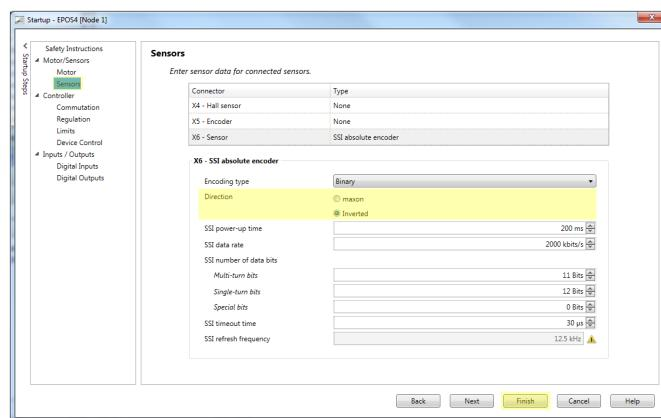

Figure 8-128 Adjustment of SSI commutation offset value | Toggle sense of rotation
- d) If the indication decreases, open the «Startup» wizard \ «Motor/Sensors» and select «Sensors». Toggle the sense of rotation by changing the active checkbox «Direction» (→Figure 8-128). Click «Finish» to close the wizard and verify the correct setting as described above.